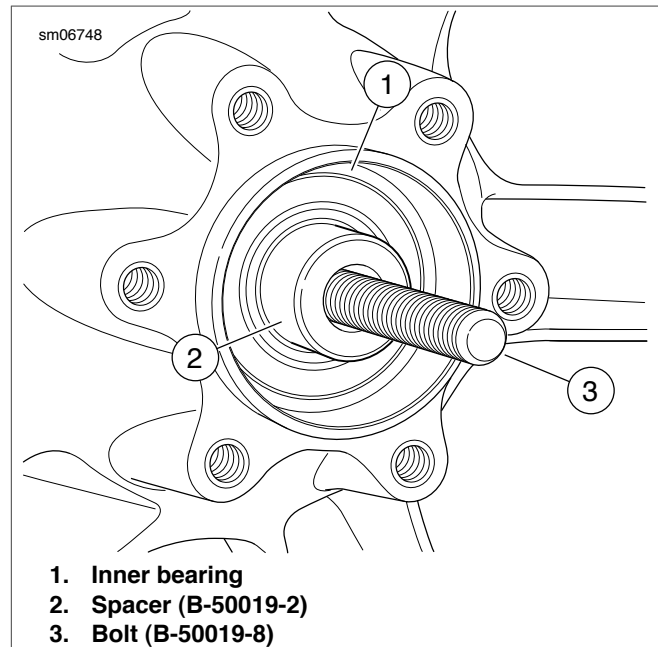
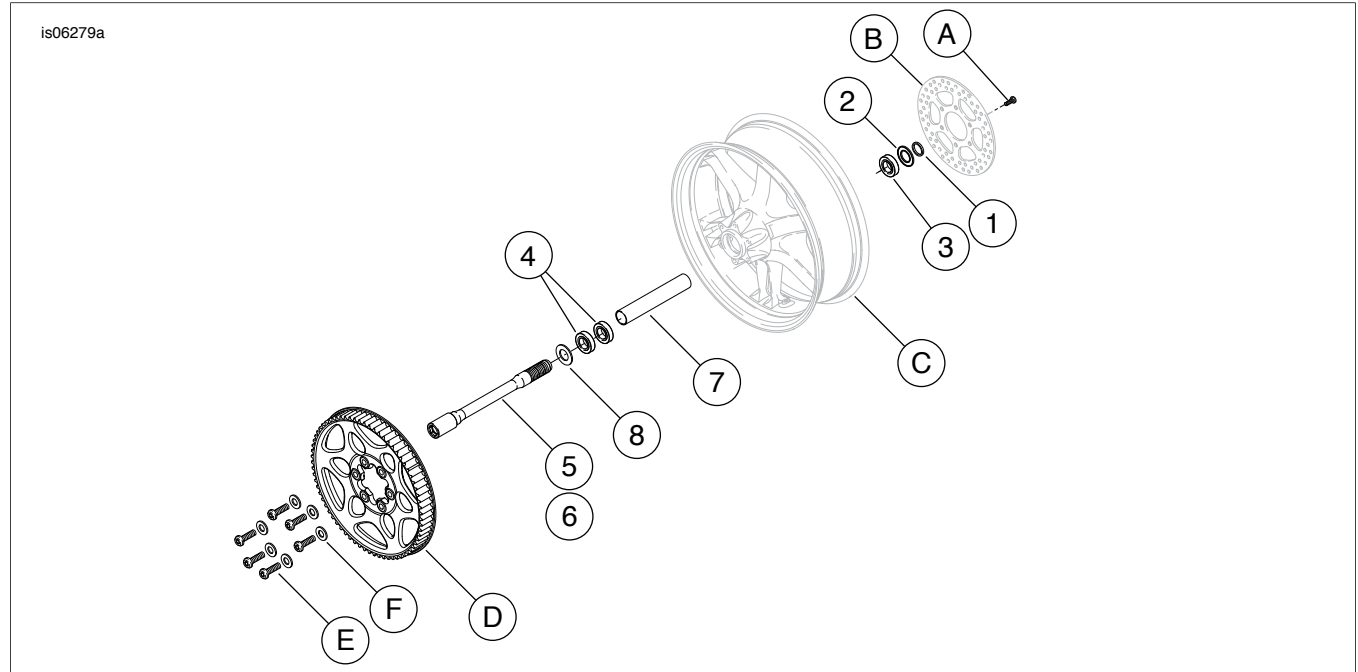

Figure 2. Sprocket Side Inner Bearing, Spacer and Bolt
Figure 4. Service Parts: Bearing Kits
See Figure 4 and Table 2.
2. Fit the rotor side bearing (Figure 4, Item 3) with the engraved letters facing out.
3. See Figure 2. Slide the bolt through sprocket side of the wheel through the rotor side bearing and slide the wheel spacer (Figure 4, Item 7) over the bolt and inside the wheel.
8. See Figure 2. Remove the nut, washer bearing and large bearing installer cup.
12. See Figure 4. Install the sprocket side bearing seal (8), the rotor side bearing seal (2) and the axle spacer (7).